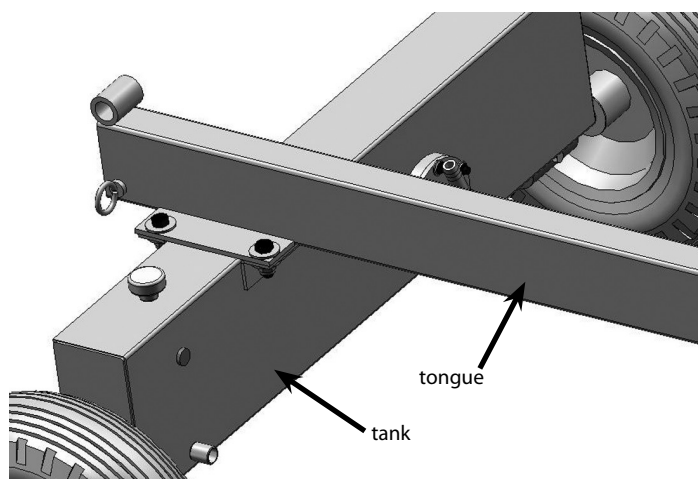

Figure 4
8. Lift the tongue out of the box and attach to the tongue mounting brackets on the tank using the four bolts, four nuts, and eight washers found in parts bag labeled #1. Tighten securely with 19mm wrenches. **SEE FIGURE 4.**